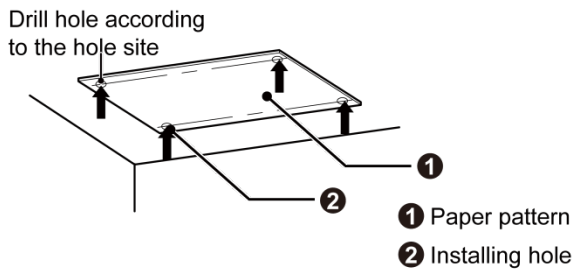
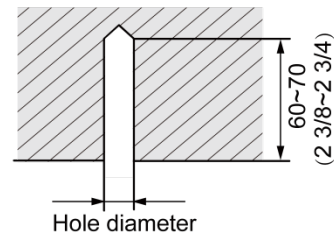

Fig.4.1.2
Fig.4.1.3
- 1) Stick the paper pattern on the installation position; drill 4 holes according to the hole site on the cardboard as shown in Fig.4.1.2; diameter of drilling hole is according to the diameter of expansion bolt and the depth is 60~70mm(2-3/8~2-3/4inch), as shown in Fig.4.1.3.